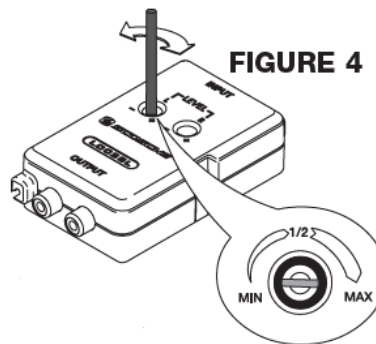

FIGURE 4
3. Use the included tool at the LOC2SL module and turn both gain controls all the way down (counterclockwise until they stop – Figure 4).